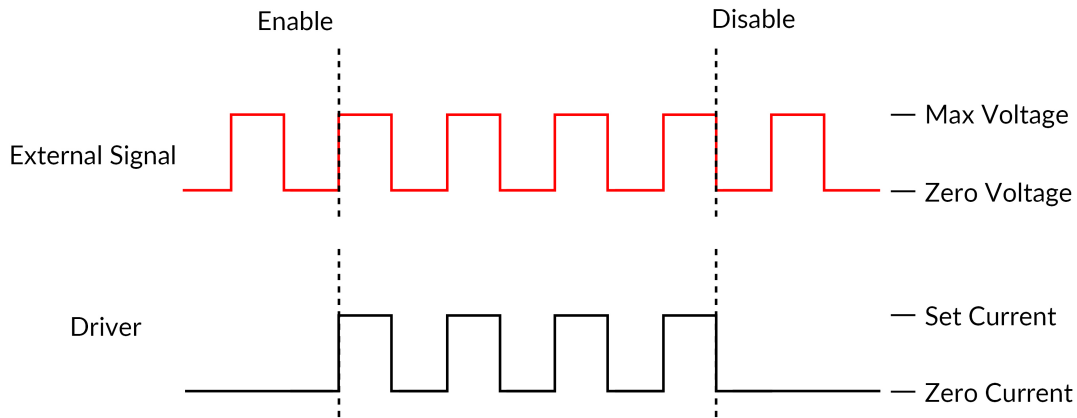

Figure 3.4: Driver Signal Response to External Source in External TTL Mode
b) The **External TTL** mode (Fig. 3.4) has the light source follow a TTL signal provided by an external source connected to the **BNC Input**. When this mode is active, the driver channel will show **TTL** under **MODE**. This mode has no additional sequence options.